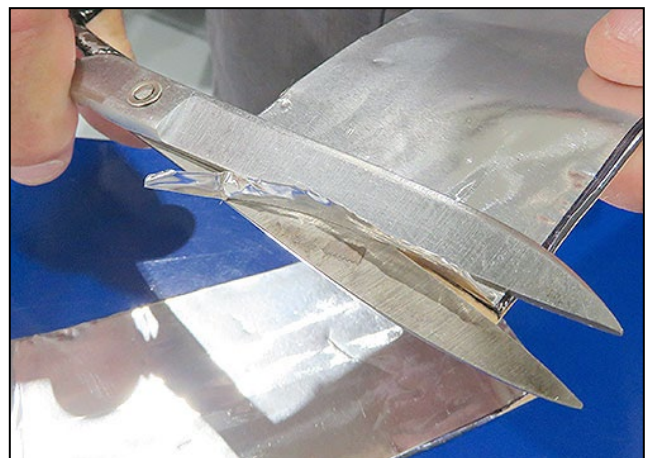

Figure 32
- o Figure 32 shows foil being trimmed.